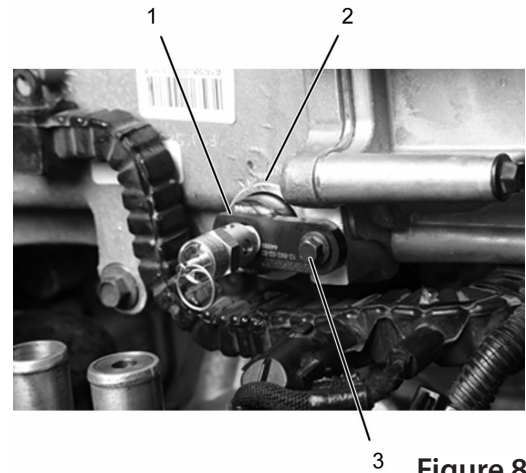

Figure 8
13. Position quick connect pop-off (Figure 8, Item 1) onto EGR cooler low-temperature coolant inlet (Figure 8, Item 2).
14. Using torque wrench, install EGR cooler low-temperature coolant inlet bolt (Figure 8, Item 3) to quick connect pop-off (Figure 8, Item 1). Using torque wrench, torque bolt to 18 lb-in (2 N·m).